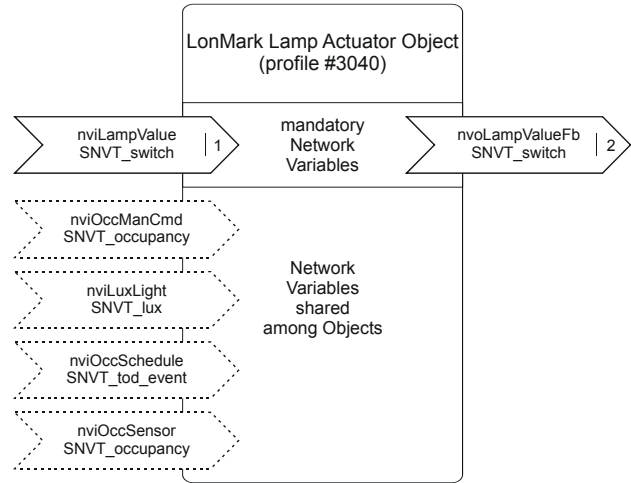

Fig. 12. Lamp Actuator Object
- four lamp actuator objects (#3040) (see Fig. 12)